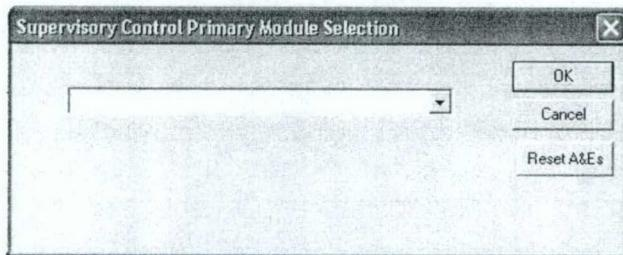

Figure 8-2 Decision Aid Module Startup Screen
1. Start "Supervisory Control" program by double clicking on the "Supervisory Control" icon on the SCS_SERVER_PC. The "Supervisory Control Primary Module Selection" window will appear. (See Figure 8-2.)